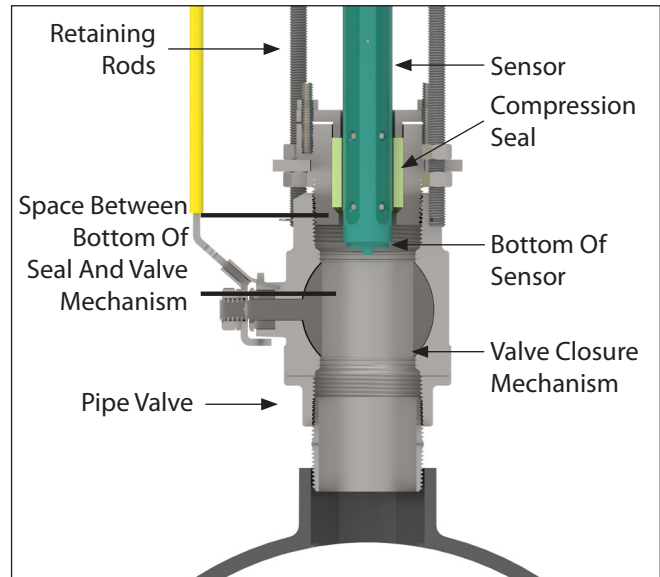

Figure 53. Cross-Section Of Meter Showing Sensor Removal
2. Start the software. Follow the instructions shown before setting up your customized configuration. (Figure 53)